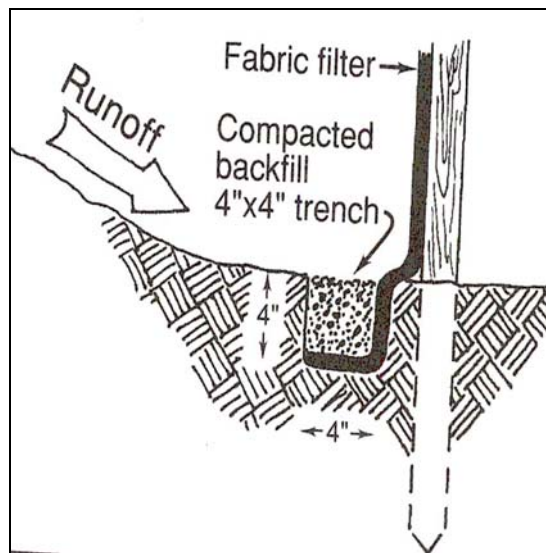

Figure 5. Proper Installation of a Silt Fence.
- ▶ Whenever temporary soil stabilization methods are required to protect recently applied grass seed, install silt fence (see Figure 5) as required.